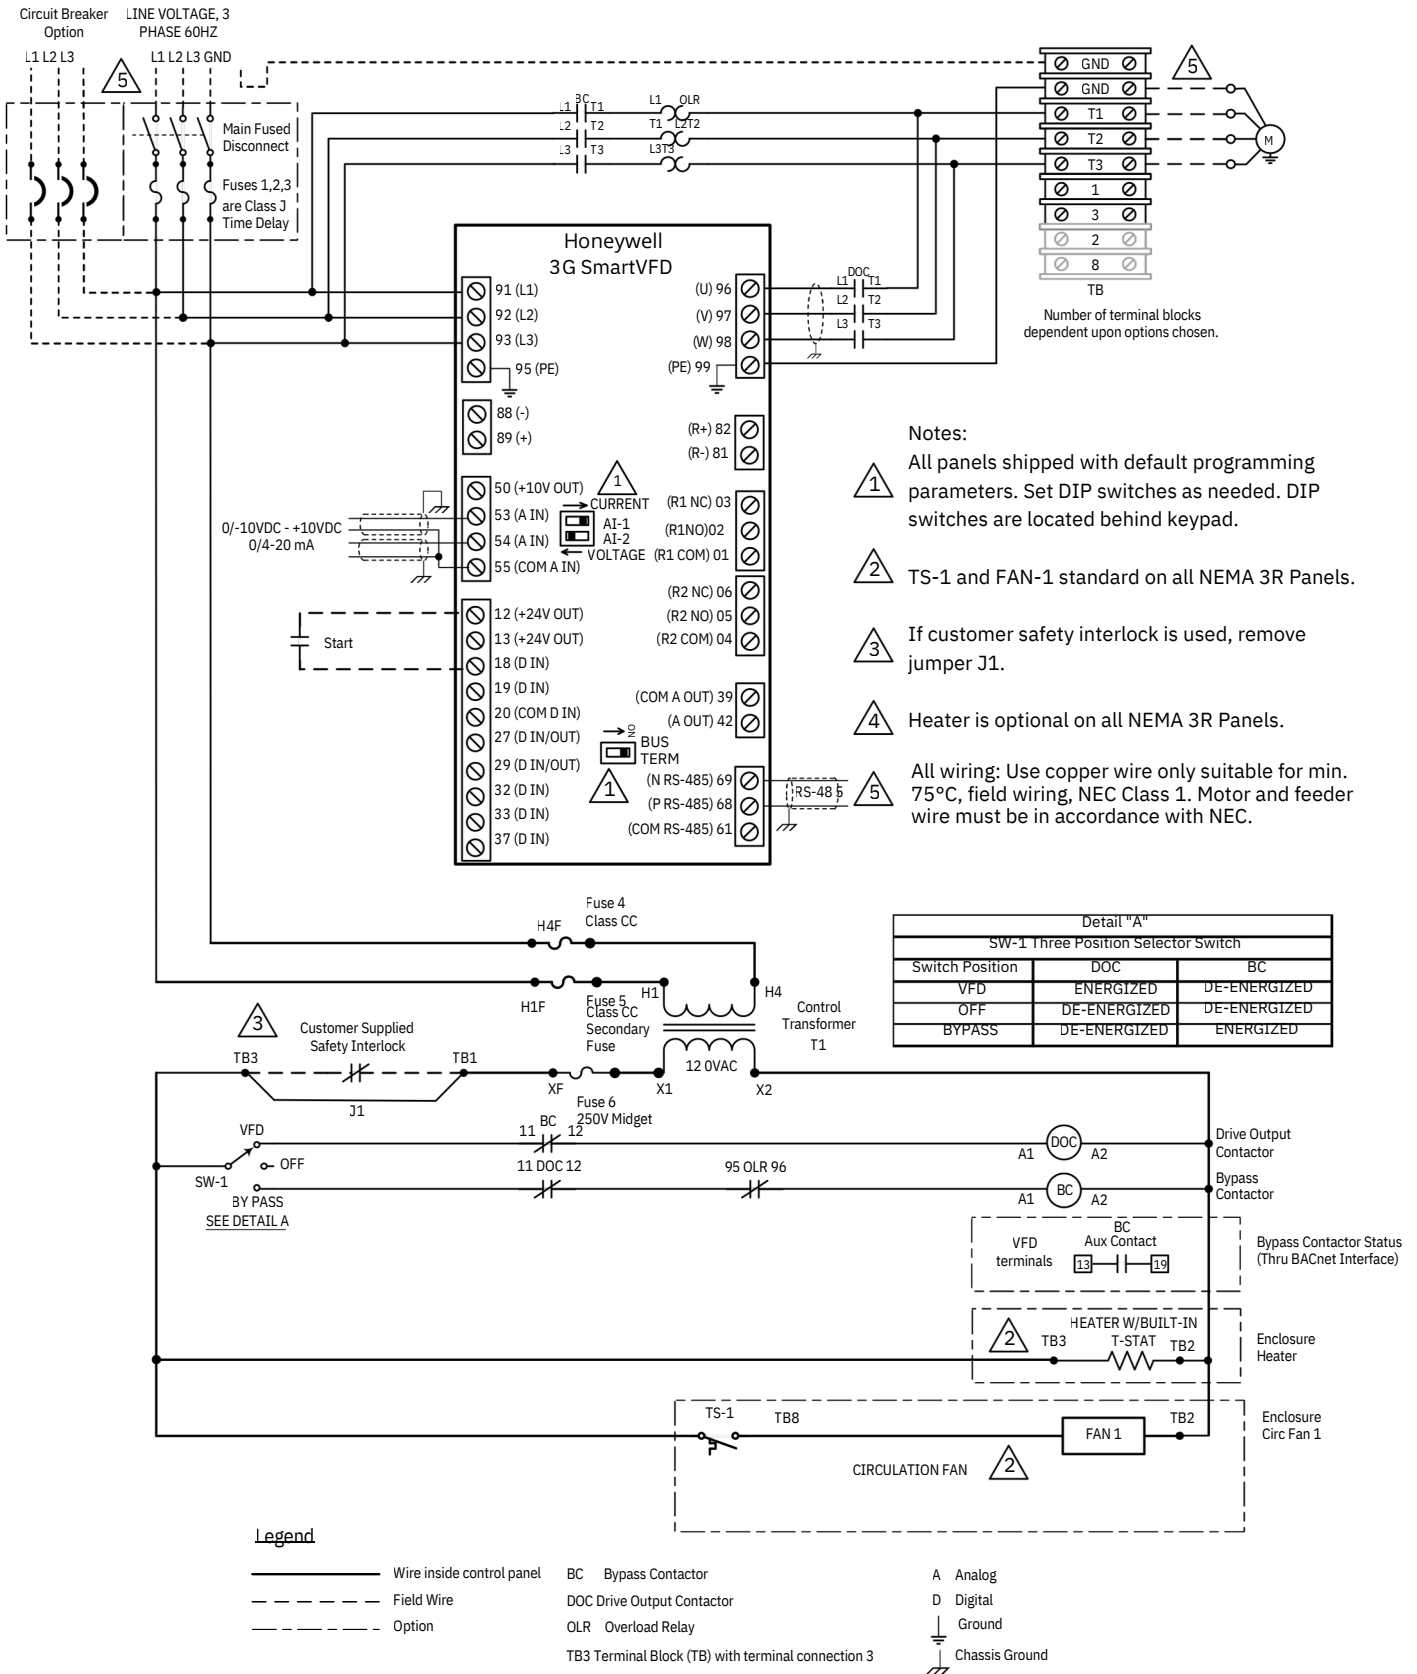

Fig. 1.0, 2 Contactor Wiring Diagram.
Refer to Fig 1.0, 2 Contactor Wiring Diagram
- c. **VFD operates backward, BYPASS operates forward.** (If motor is rotating backward in VFD mode and forward in Bypass mode there may be an issue with the internal factory wiring). Shut down power, lock out power source, test incoming voltage on incoming line power wiring on line terminals "L1", "L2", "L3". Once it is established that power is shut down, open the VFD cover and locate terminals "91" (L1) and "92" (L2) on the drive. Swap wires on terminals "91" (L1) and "B2" (L2). (Refer to Fig. 1.0, 2 Contactor Wiring Diagram). Re-energize power and check rotation again. Verify the motor rotation in VFD mode is forward. Once verified, switch to BYPASS mode and verify rotation in BYPASS mode is forward. Once proper rotation is confirmed in both modes, proceed with commissioning drive and setup as needed. If problems persist call J&L factory staff for technical support.
- d. **VFD operates forward, BYPASS operates backward** (If motor is rotating forward in VFD mode and backward in Bypass mode, there may be an issue with the internal factory wiring). Shut down power, lock out power source, test incoming voltage on incoming line power wiring on line terminals "L1", "L2", "L3". Once it is established that power is shut down, locate the overload relay within the bypass enclosure. Find terminals "T1" and "T2" on the overload relay. Swap wires on terminals "T1" and "T2." (Refer to Fig. 1.0, 2 Contactor Wiring Diagram). Re-energize power and check rotation again. Verify the motor rotation in VFD mode is forward. Once verified, switch to BYPASS mode and verify rotation in BYPASS mode is forward. Once proper rotation is confirmed in both modes, proceed with commissioning drive and setup as needed. If problems persist call J&L factory staff for technical support.